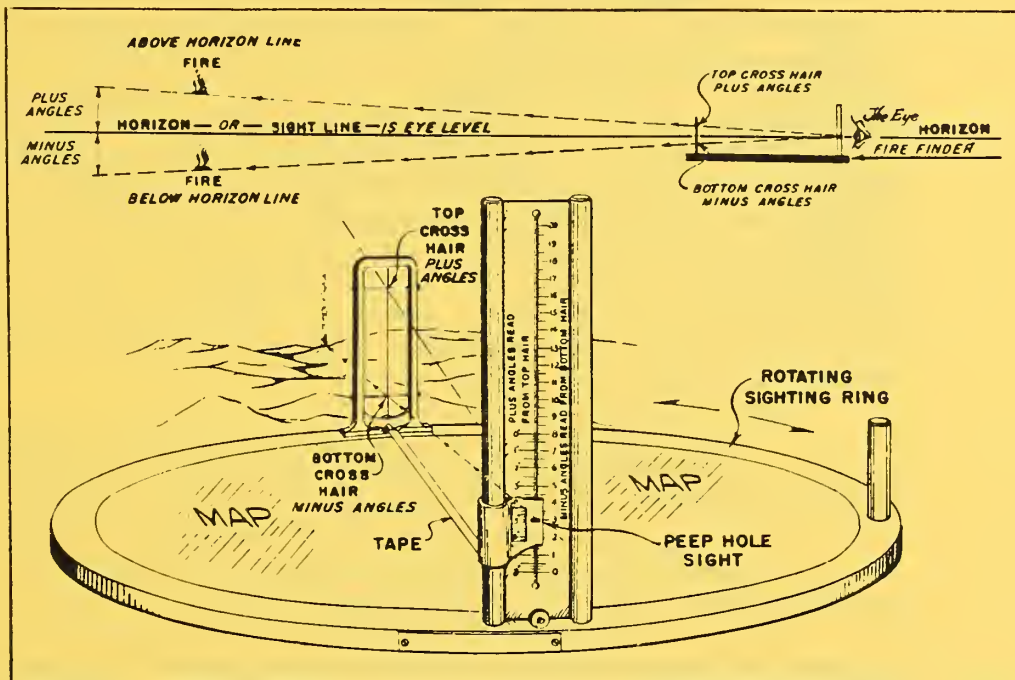

Figure 6.--How to read vertical angle.
b. Obtaining Vertical Angle Reading. The vertical angle is measured by the sliding metal piece on the rear sight. Figure 6 shows a closeup of the rear sight mechanism. There are two sets of figures marked on this sight; one reads "Plus angle read from top hair" and the other reads "Minus angle read from bottom hair."
The vertical reading pictured in figure 6 (using bottom hair scale) is -3° . Each mark between numerals is 10 minutes. The minus figure (-) indicates that origin of the fire is below the lookout level. Most of the readings will be a minus figure as fires generally start at the lower, more heavily used elevations below the lookout point.